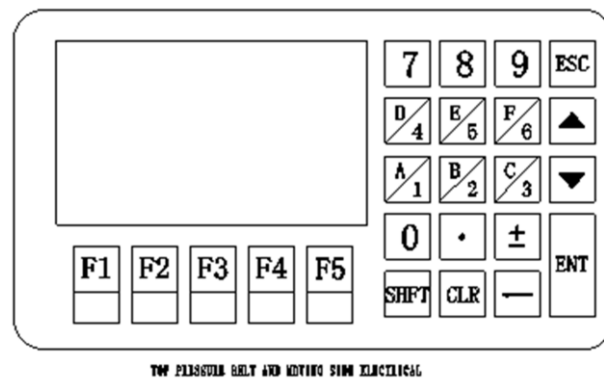

Figure 26
- ② Close the cover, turn switch SA1 to "1SPANEL", set the working width by the text displayer on the control panel :please see (Figure 26)